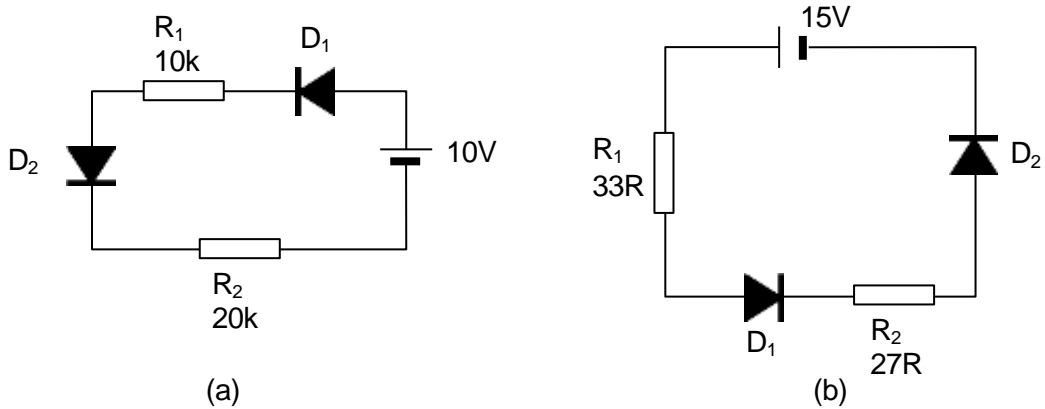

Figure 8. Circuit for problem
Refer to Figure 8. Assume a diode drop of 0.6V for each forward biased diode.
a). State the voltage drop across each diode in Figure 8(a).
b) Calculate the circuit current in Figure 8(a).
c) Calculate the voltage drops across R_1 and R_2 in Figure 8(a).
d). State the voltage drop across each diode in Figure 8(b).
e) Calculate the circuit current in Figure 8(b).
f) Calculate the voltage drops across R_1 and R_2 in Figure 8(b).